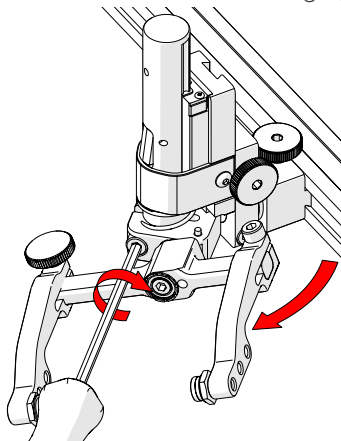

Fig. 114 - Rotate and tighten
3. Tighten the transverse adjustment screw (*Fig. 114*).